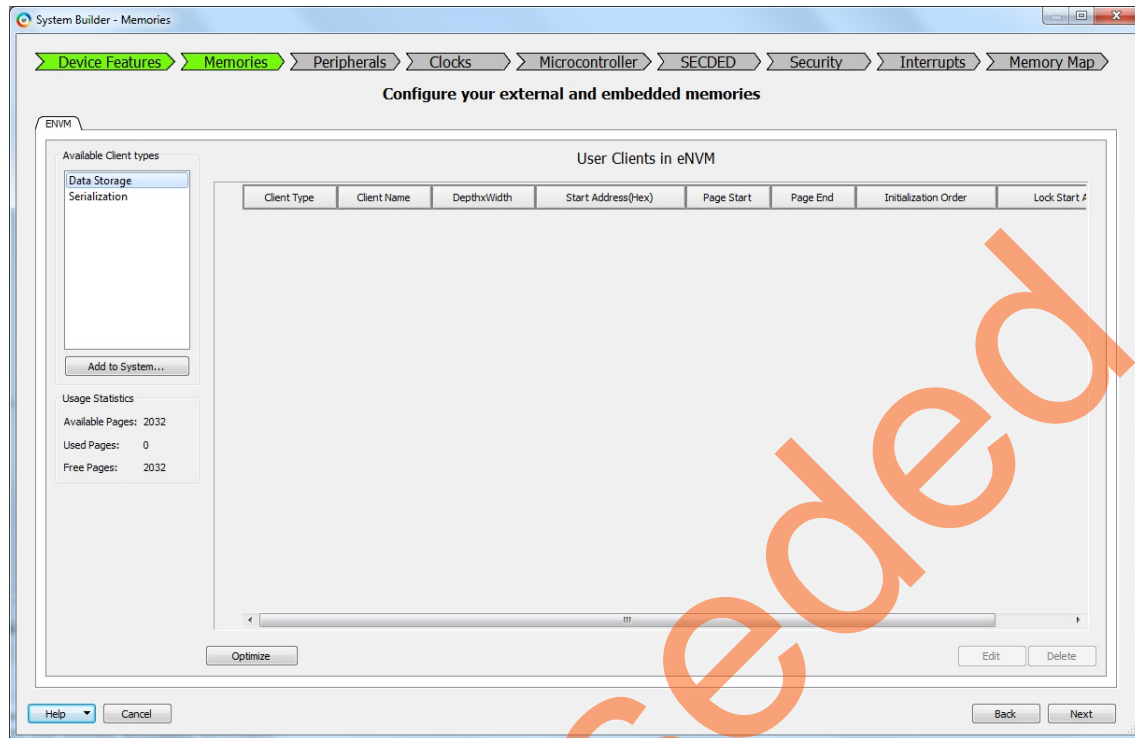

Figure 41 • System Builder - Memory eNVM
15. The eNVM configurator window is displayed as shown in Figure 41.